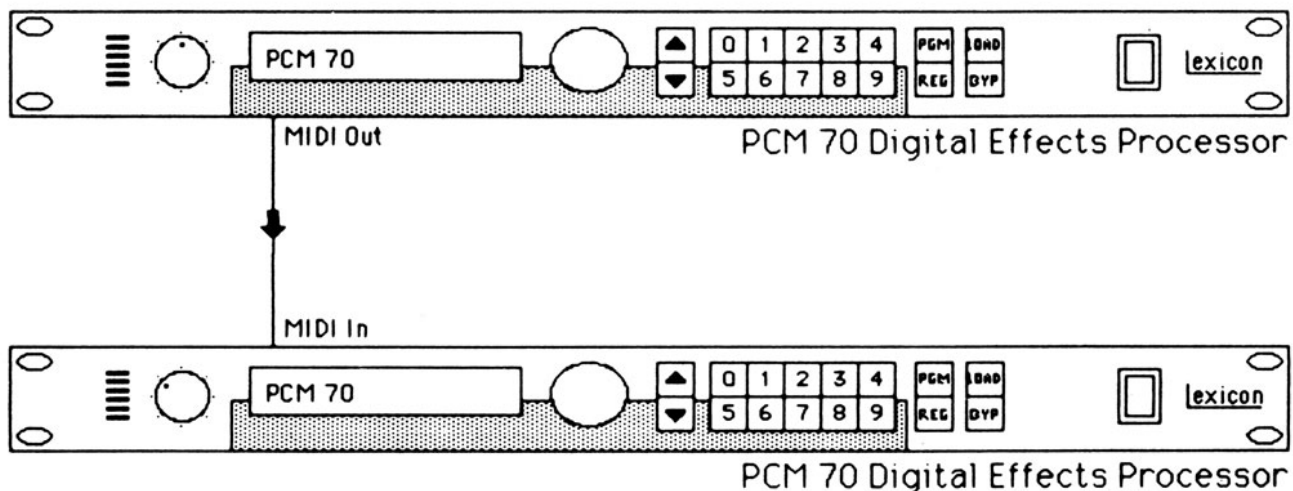

Figure 5.1. Linking two PCM 70 units
To link two PCM 70's together for simultaneous loading of programs and registers, connect the MIDI OUT from one unit to the MIDI IN of another unit, as shown in Figure 5.1. As with any MIDI connection, use only standard MIDI cables and keep their length as short as possible to avoid possible data errors. 15 meters is generally accepted as the longest length that should be used.
1. Connect your system as shown in Figure 5.1.
1. Connect the two units as shown in Figure 5.1, using a standard MIDI cable.